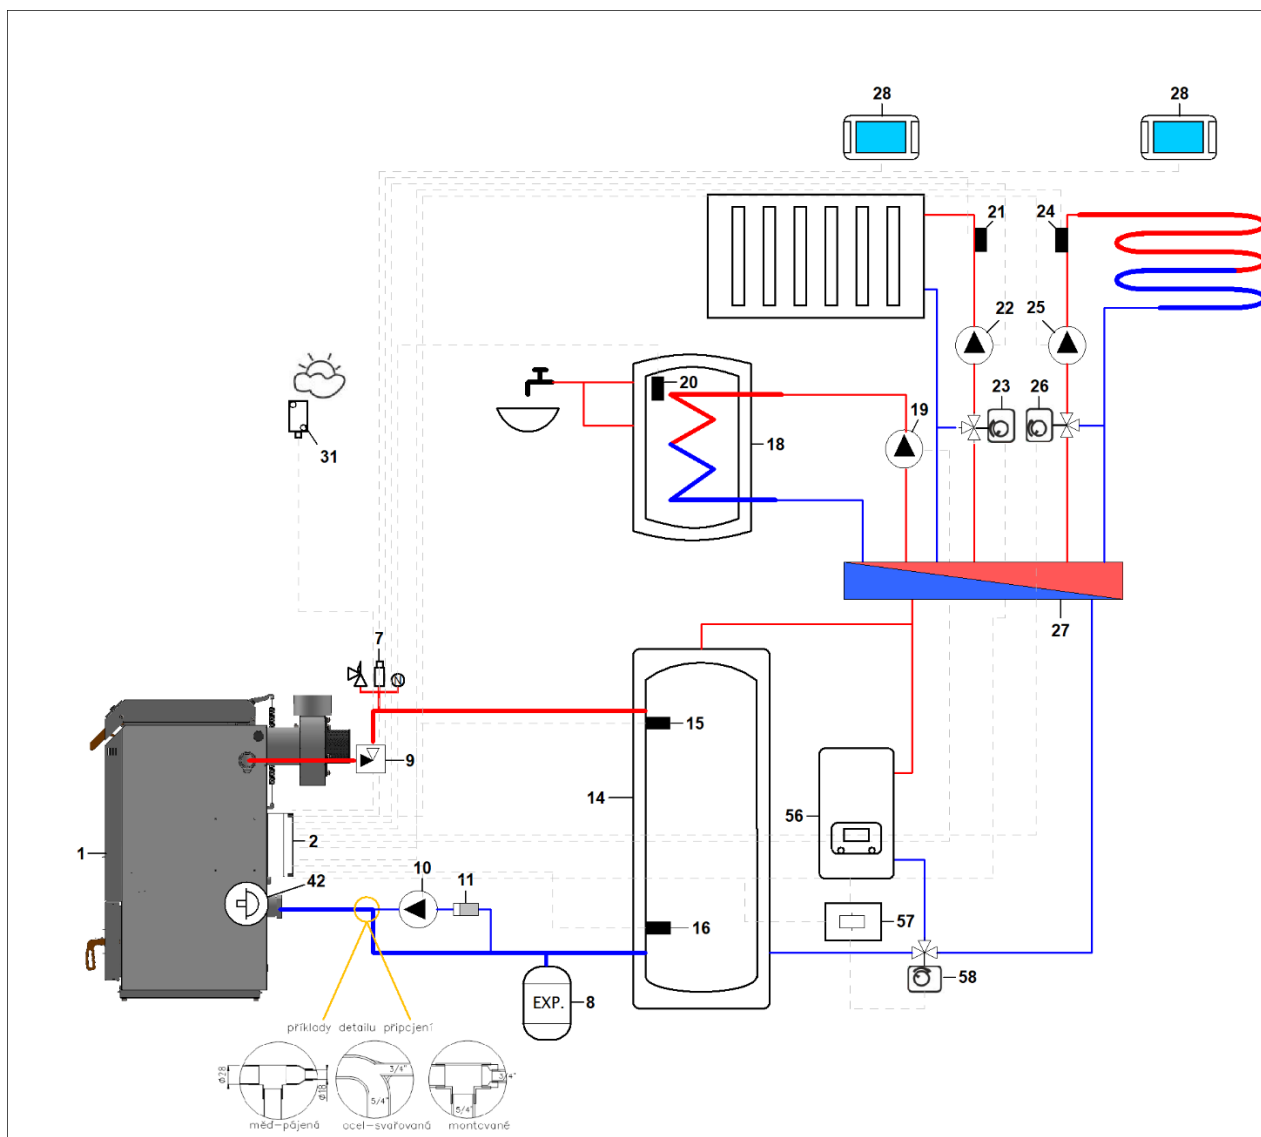

Figure 29. Hydraulic connection with reserve boiler (56) and diverter valve (58)
*A three-way diverter valve can be connected to separate the heating circuit and HUW from the storage tank to prevent it from heating up - see Figure 29.*